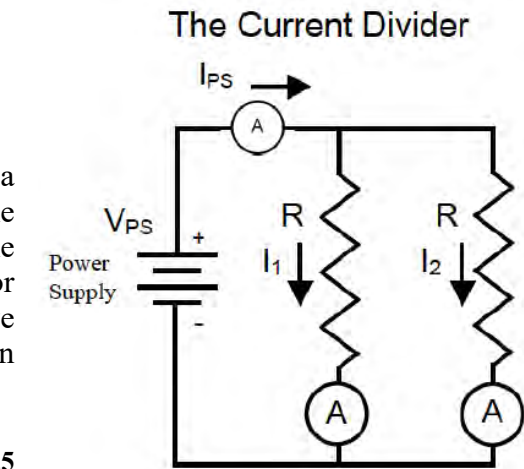

Figure 9.6
Consider the circuit shown in Figure 9.6. It is a rearrangement of the previous circuit and puts the same 2 resistors in parallel, rather than in series. This time you have built what is called a “current divider” for reasons you shall verify. At the point labeled ‘X’ we can apply the *Current Sum Rule* and write an expression like this:
1. Assemble the circuit as shown in Figure 9.6. You may not have 2 ammeters as the figure shows, but the figure is trying to express that you have to measure the current in each branch. Use the same 2 resistors as before, keeping R_1 equal to 220 ohms and R_2 equal to 1000 ohms.